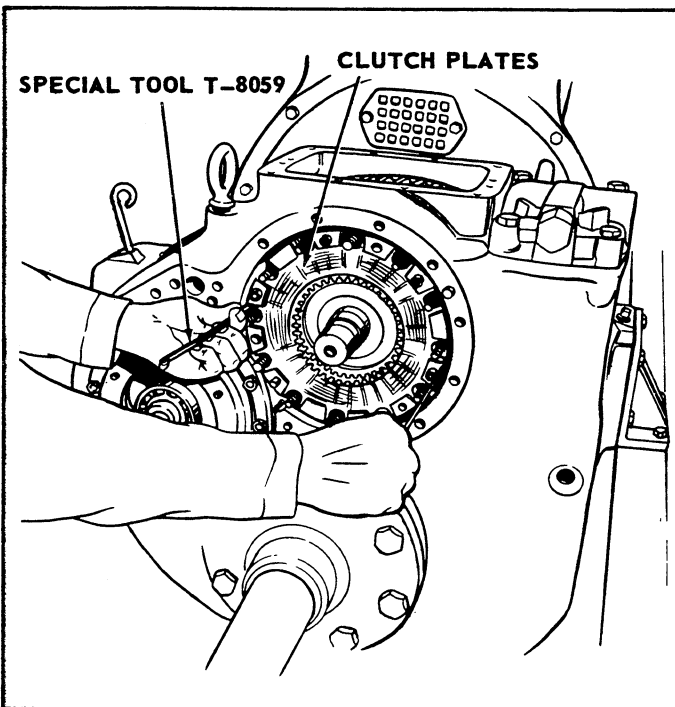

Figure 28. Removing the Clutch Plates from the Clutch Spider with Special Tool T-8059.
(10) Remove the two piston rings from the forward clutch shaft only if replacement of parts is necessary. Remove the twelve release springs from the split sleeves installed on the studs in the clutch spider. Use special tool T-8059 (Fig. 28), and remove the clutch plates from the clutch spider.